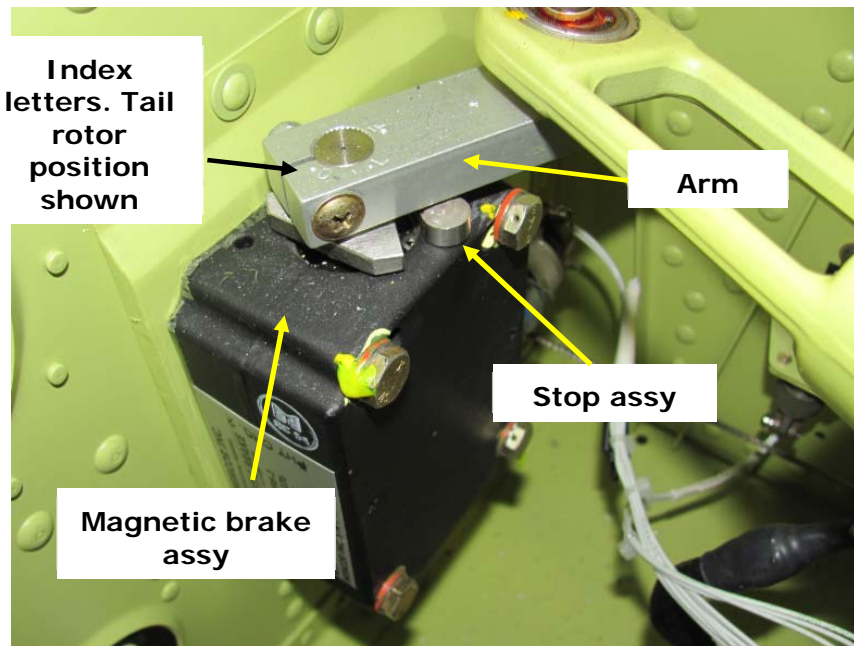
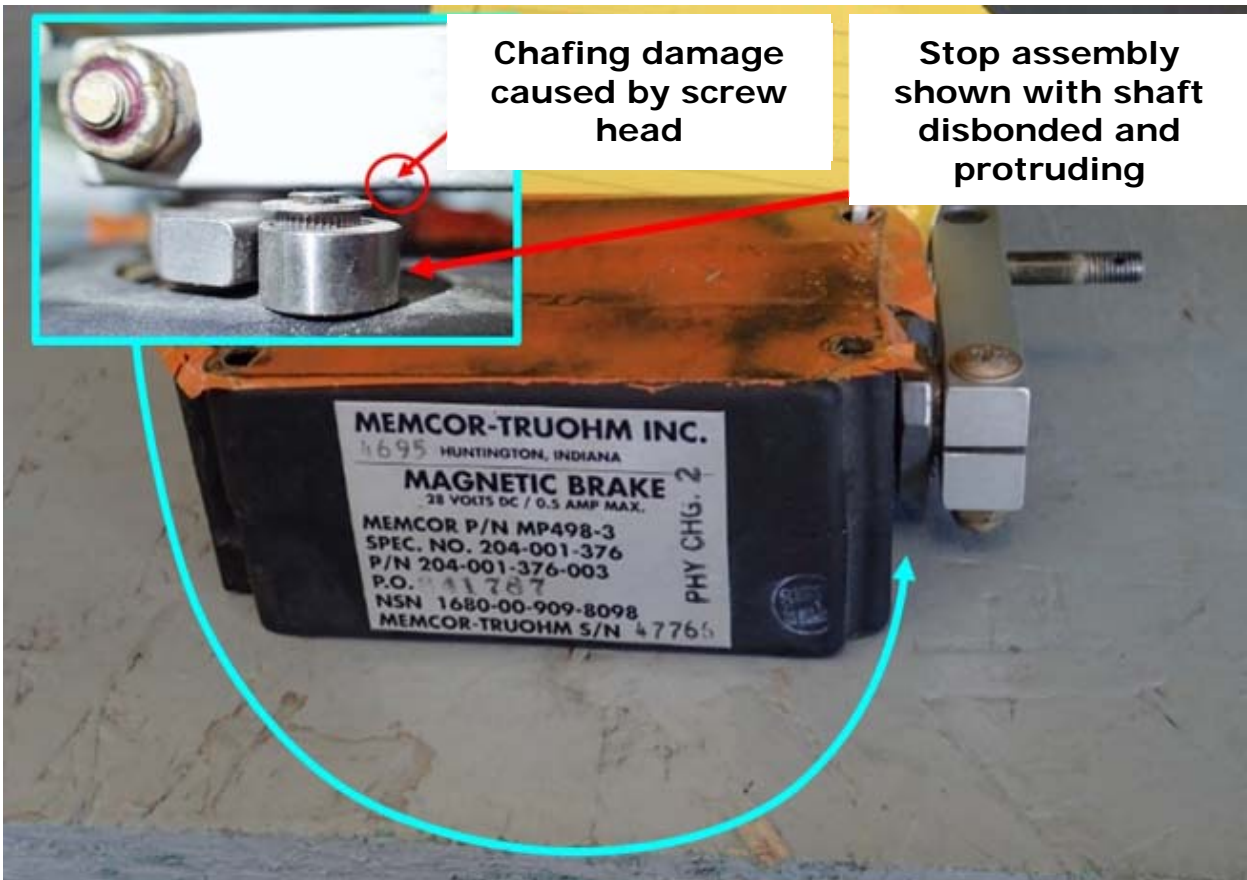

Figure 1. Magnetic brake assembly.
Figure 3. Stop assembly with disbonded shaft.
3. Perform a detailed visual inspection of the stop assemblies (Figures 1 and 2). Figures 3 and 4 show a stop assembly found disbonded.